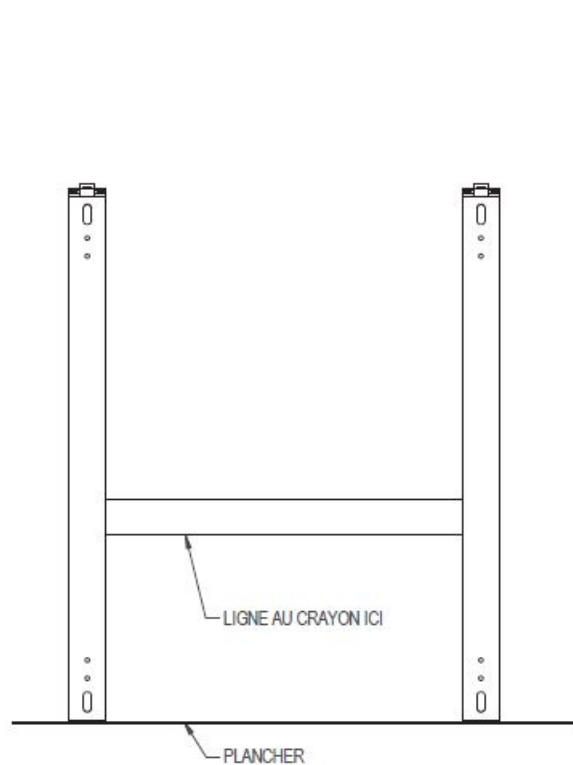

FIGURE 1
2. Put the bracket on the floor, on the wall where the appliance is installed and draw a temporary line under the horizontal line of the bracket using a pencil. (FIGURE 1)